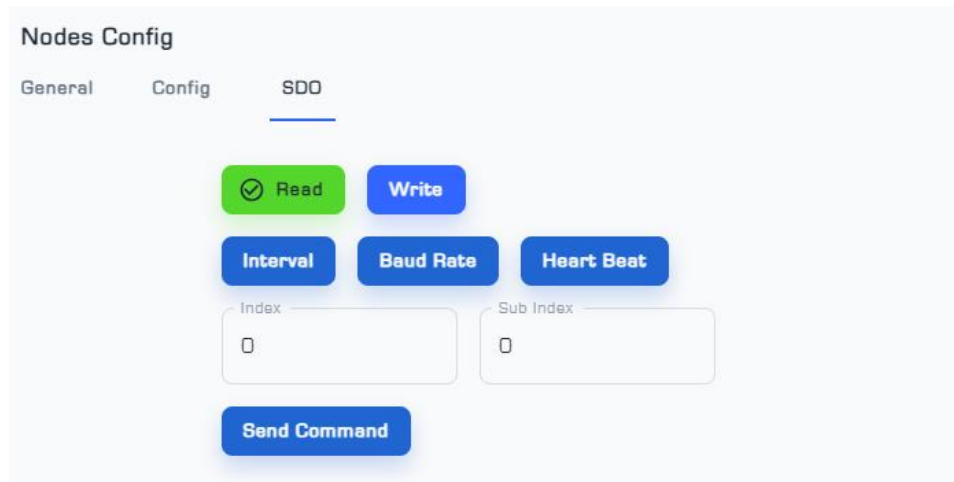

Figure 7: SDO Menu from Nodes Config page
- The SDO menu is used to change the parameters of Interval ¹ , Baud Rate ² , and Heartbeat³ (Figure 7).